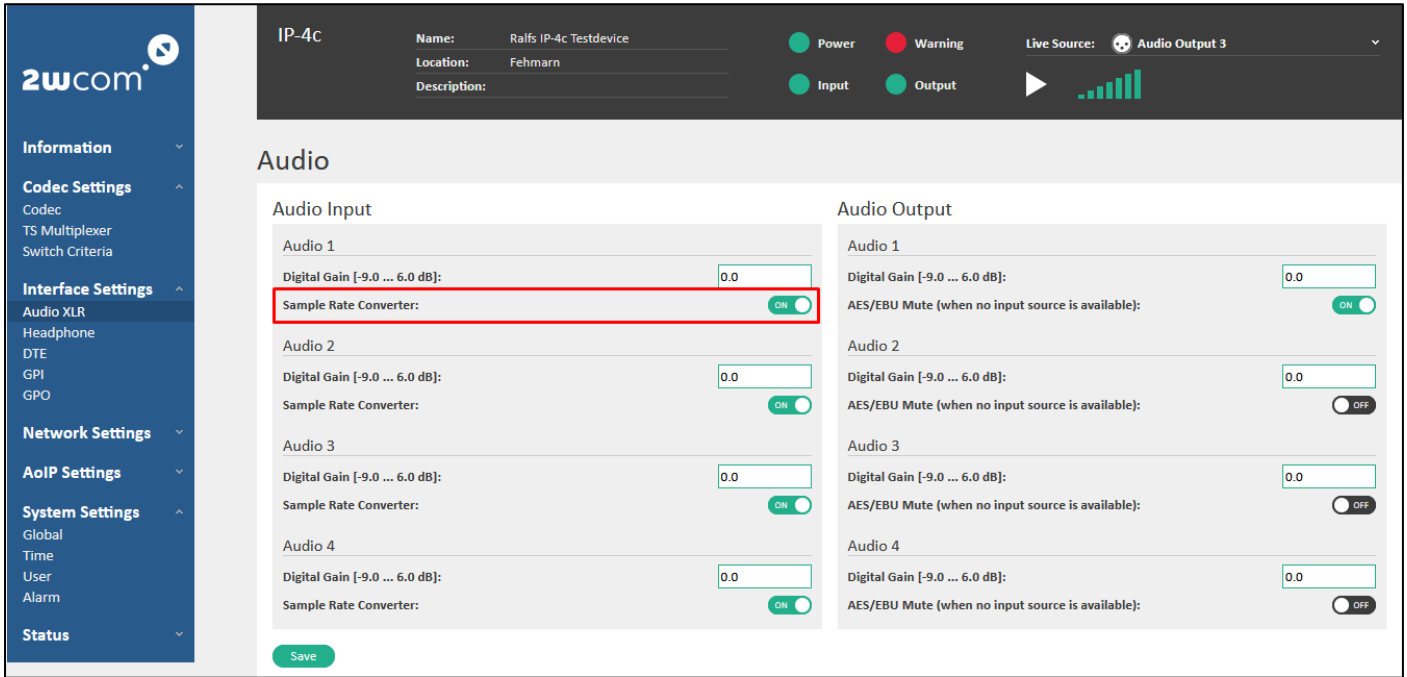

Figure 67: Interface settings – Audio XLR (> 1.26 App version)
1. Select **Interface Settings** → **Audio XLR** in the web interface of the IP-4c (see Figure 67).